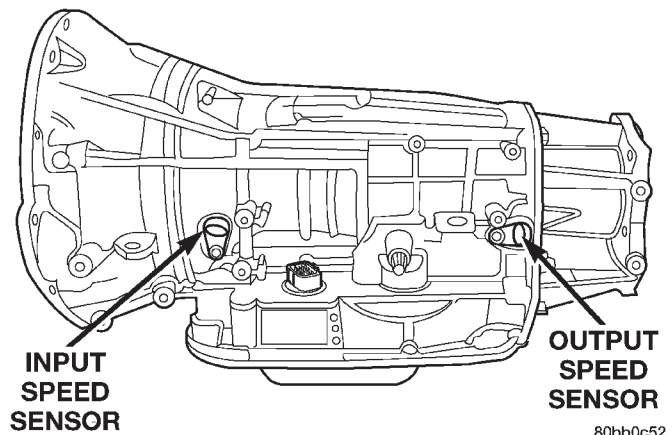

Fig. 14 Output Speed Sensor
- (1) Raise vehicle.
- (2) Place a suitable fluid catch pan under the transmission.
- (3) Remove the wiring connector from the output speed sensor (Fig. 14).
- (4) Remove the bolt holding the output speed sensor to the transmission case.
- (5) Remove the output speed sensor from the transmission case.